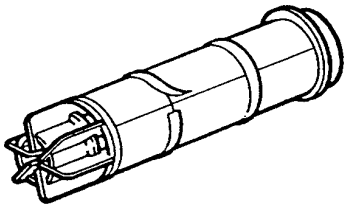

Fig. 24
3. **Wall Thickness 280mm - 685mm (11in - 27in)** -Take the telescopic air duct from its pack. Open the air duct out to the wall thickness. Using the tape provided seal the joints of the three sections of the air duct, ensuring an overlap of at least 30mm ( $1\frac{3}{16}$  in) at each joint (Fig. 24).